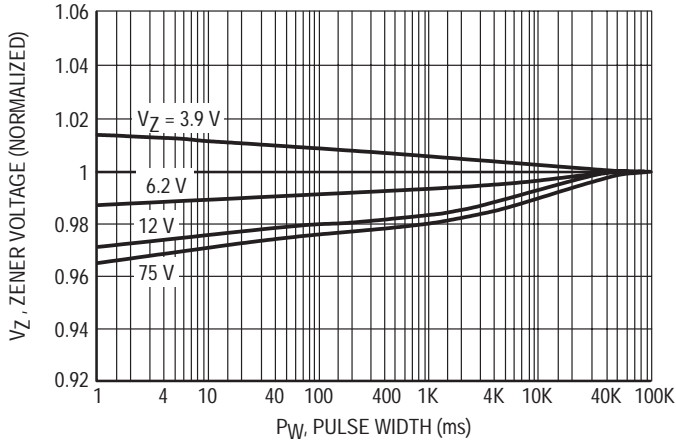
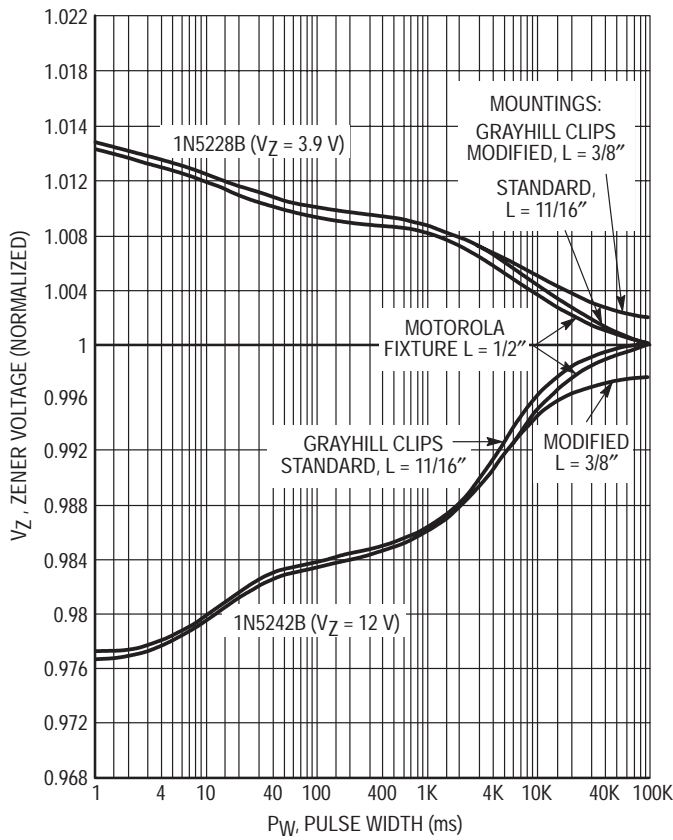
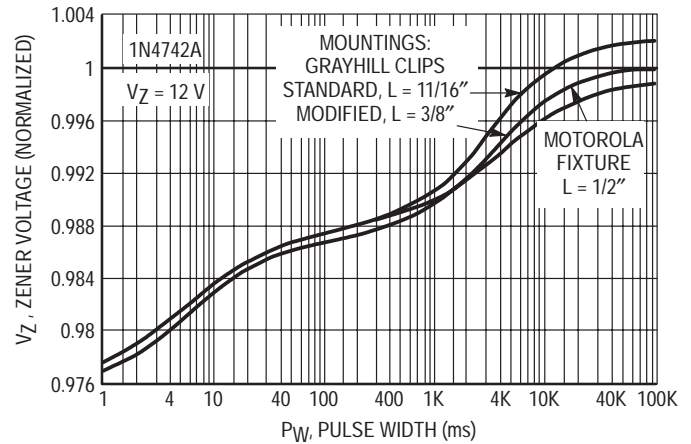

Figure 1. DO-35 (Glass) 500 mW Device
Figure 5. DO-35 (Glass) 500 mW Device
Figure 6. DO-41 (Glass) 1 Watt Device
Normalized  $V_Z$  versus  $I_{ZT}$  pulse width curves are shown in Figure 1 through 6. The type of heatsink used is shown or specified for each device package type. Obviously, it is beyond the scope of this paper to show curves for every voltage rating available for each package type. The object was to have a representative showing of voltages including when available, one diode with a negative temperature coefficient (TC).
For example, refer to Figure 5 which shows normalized  $V_Z$  curves for the axial lead DO-35 glass package. Three mounting methods are shown to show how the mounting effects device heating and thus  $V_Z$ . Curves are shown for a 3.9 V diode (1N5228B) which has a negative TC and a 12 V diode (1N5242B) having a positive TC.
In Figure 5, the two curves generated using the Grayhill mountings are normalized to  $V_Z$  at TE using the Motorola fixture. There is very little difference in  $V_Z$  at pulse widths up to about 10 seconds and mounting only causes a very small error in  $V_Z$ . The maximum error occurs at TE between mountings and can be excessive if  $V_Z$  is specified at TE and a customer measures  $V_Z$  at some narrow pulse width and does not use a correction factor.
Using the curves of Figure 5,  $V_Z$  can be calculated at any pulse width based upon the value of  $V_Z$  at TE which is represented by 1 on the normalized  $V_Z$  scale. If the 1N5242B diode is specified at 12 V  $\pm$  1.0% at 90 seconds which is at TE,  $V_Z$  at 100 ms using either of the Grayhill clips curves would be 0.984 of the  $V_Z$  value at TE or 1 using the Motorola fixture curve. If the negative TC diode is specified at 3.9 V  $\pm$  1.0% at TE (90 seconds),  $V_Z$  at 100 ms would be 1.011 of  $V_Z$  at TE (using Motorola fixture curve) when using the Grayhill Clips curves.
In using the curves of Figure 5 and 6, it should be kept in mind that  $V_Z$  can be different at TE for the three mountings because diode junction temperature can be different for each mounting at TE which is represented by 1 on the  $V_Z$  normalized scale. Therefore, when the correlation of  $V_Z$  between parties is attempted, they must use the same type of mounting or know what the delta  $V_Z$  is between the two mountings involved.
The Grayhill clips curves in Figure 6 are normalized to the Motorola fixture at TE as in Figure 5. Figures 1 through 4 are normalized to  $V_Z$  at TE for each diode and would be used as Figures 5 and 6.
Measurement accuracy can be affected by test equipment, power dissipation of the D.U.T., ambient temperature and accuracy of the voltage divider if used on the input of the first op-amp (U4). The curves of Figures 1 through 6 are for an ambient temperature of 25°C, at other ambients,  $\theta V_Z$  has to be considered and is shown on the data sheet for the 1N5221B series of diodes.  $\theta V_Z$  is expressed in mV/°C and for the 1N5228B diode is about -2 mV/°C and for the 1N5242B, about 1.6 mV/°C. These values are multiplied by the difference in  $T_A$  from the 25°C value and either subtracted
FIGURES 1 thru 8 — Conditions: Single Pulse,  $T_A = 25^\circ\text{C}$ ,  $V_Z I_{ZT} = 1/4 P_D$  (Max) Each device normalized to  $V_Z$  at TE.